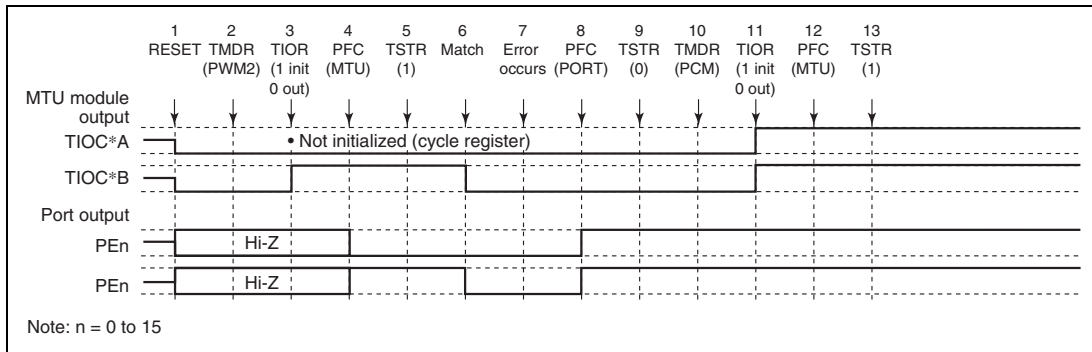

Figure 8.99 Error Occurrence in PWM Mode 2, Recovery in Phase Counting Mode
(16) Operation when Error Occurs during PWM Mode 2 Operation, and Operation is Restarted in Phase Counting Mode: Figure 8.99 shows an explanatory diagram of the case where an error occurs in PWM mode 2 and operation is restarted in phase counting mode after re-setting.